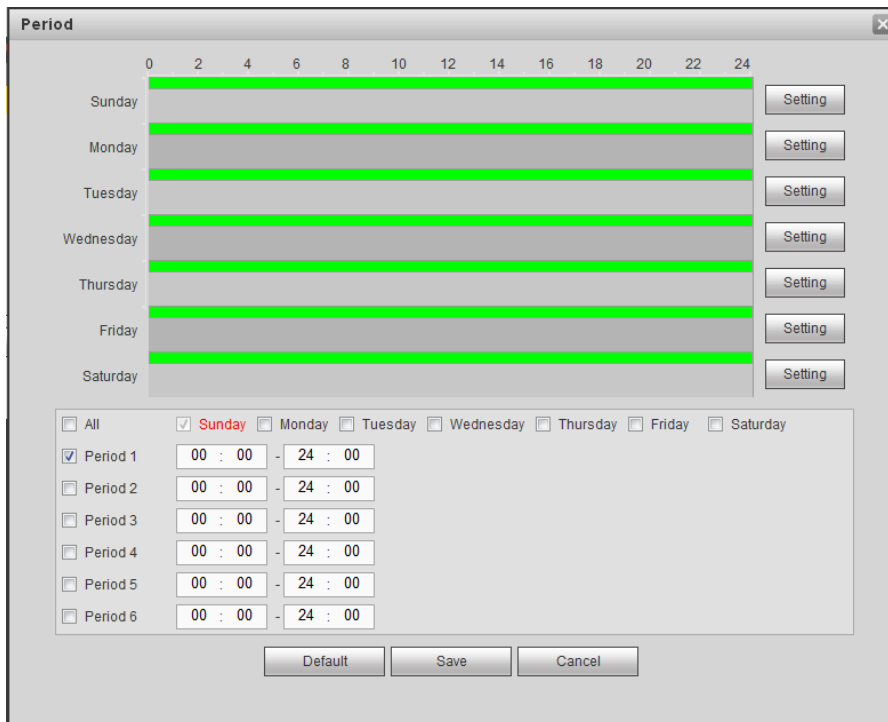

Figure 4-118
Step 3 Click the Set button after the period. It is to set valid period to use current account. See Figure 4-118.